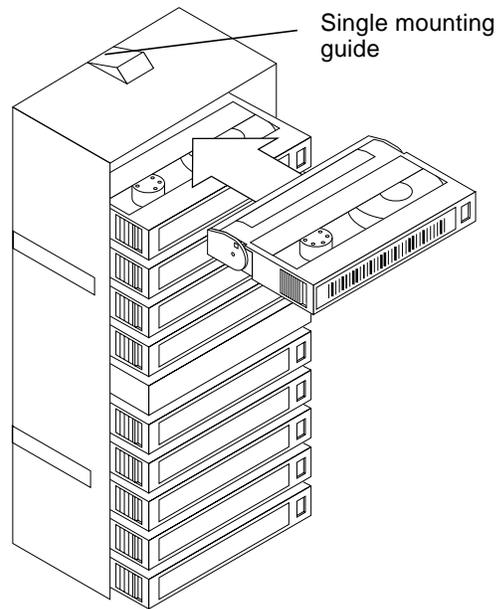

FIGURE 2-6 Inserting a Tape Cartridge
2. **Using the holder's single mounting guide for orientation, insert a cartridge into the holder (FIGURE 2-6).**